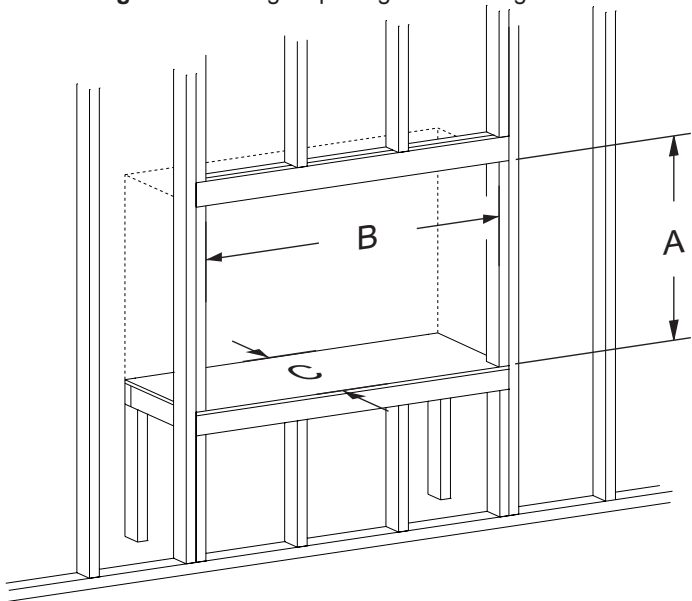

Figure 40 - Rough Opening for Elevated Installation
- Use **Figure 40** for an elevated installation. Provide support to the bottom of the fireplace.